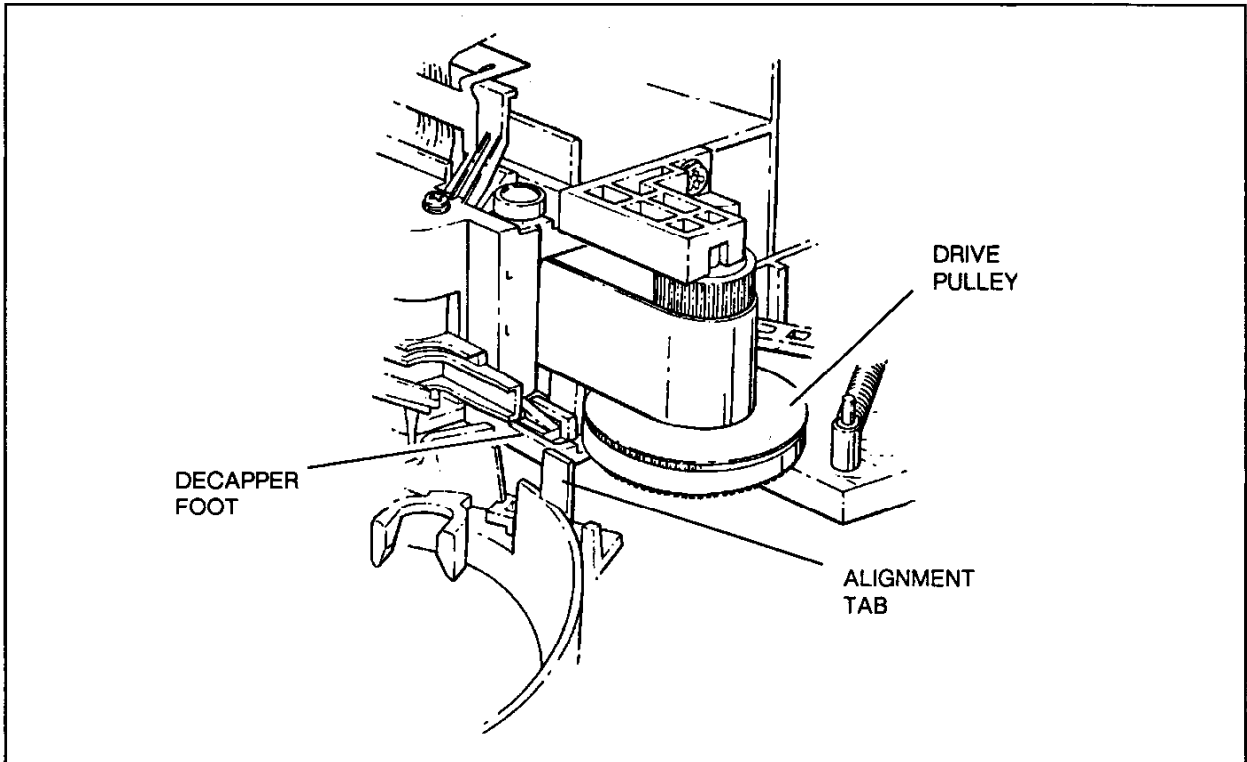

Figure 7-2. Carousel Base Adjustment
- e. Manually move the pen carriage to the right until the decapper foot touches the pen carriage drive pulley. See Figure 7-2.
- f. Slide the carousel base (side to side) to a position where the actuator foot first contacts the alignment tab on the carousel base. See Figure 7-2.